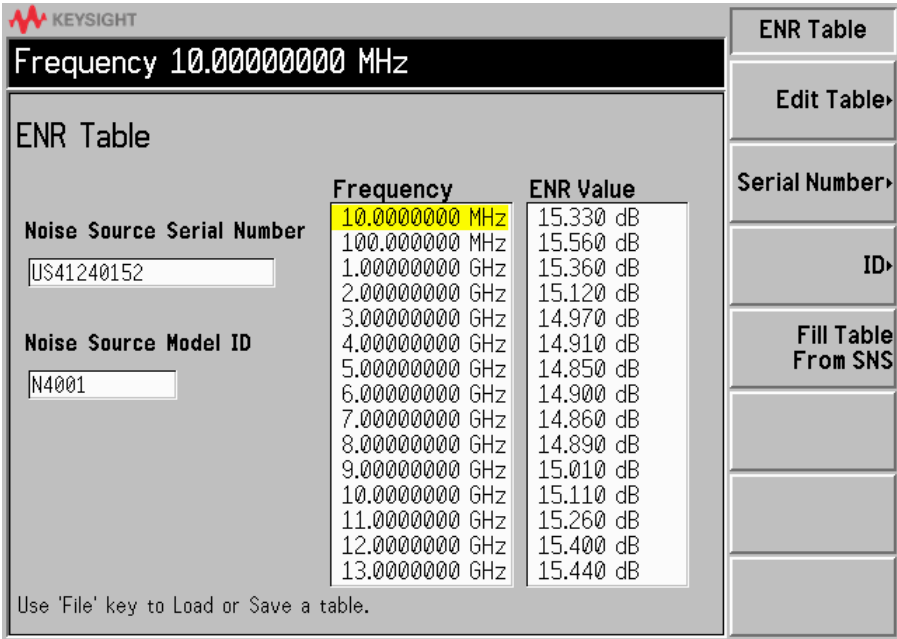

Figure 4-4 A typical ENR table after data entry
- 15 Verify the data has been transferred from the SNS to the NFA. The data transfer should be similar to **Figure 4-4** on page 34. If it is not, return the SNS to Keysight Technologies for repair.